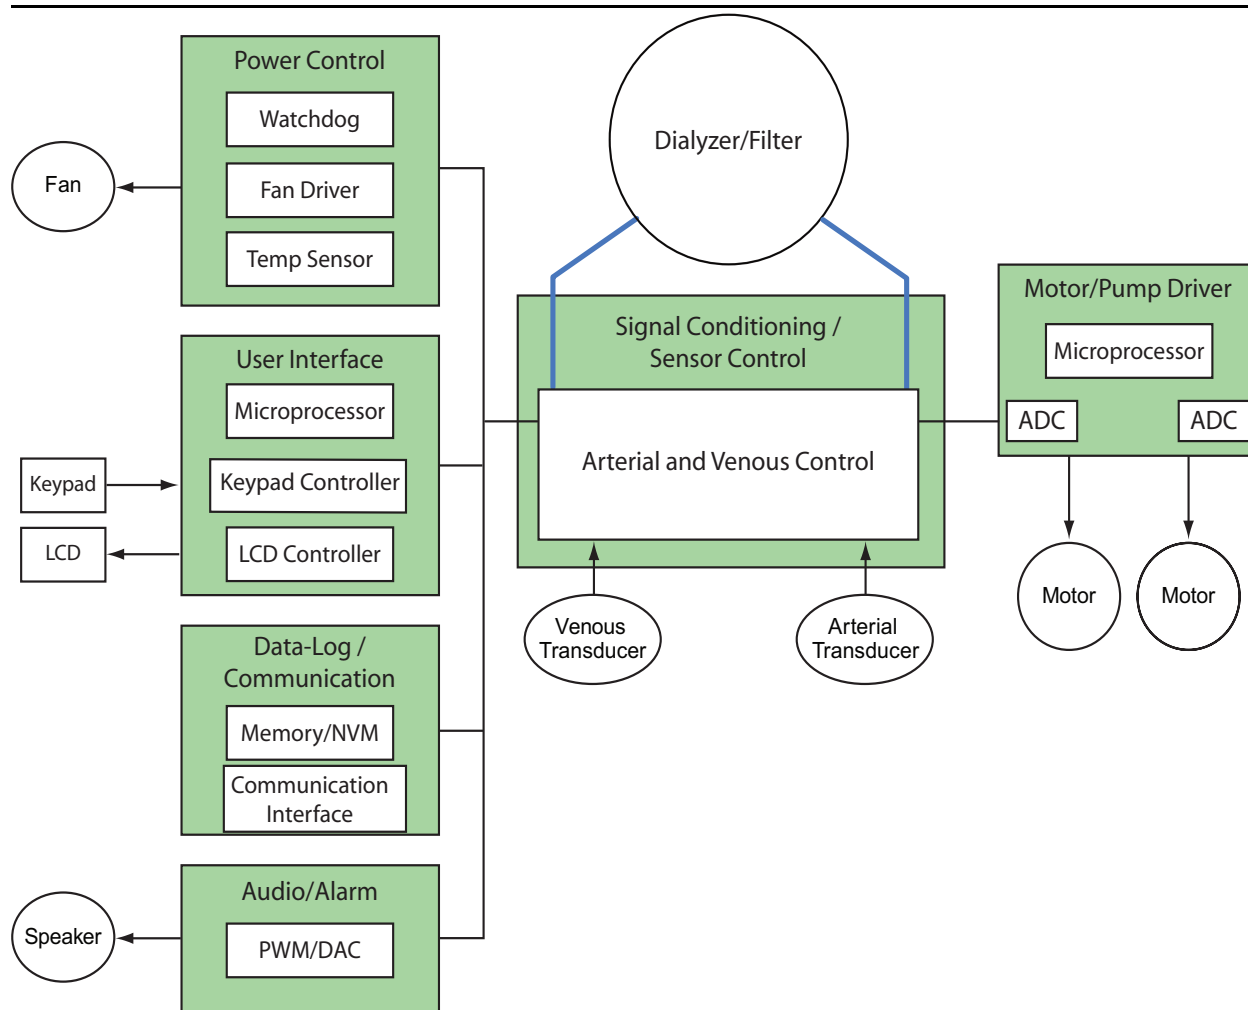

Figure 1 • Hemodialysis Block Diagram
- A typical dialysis machine (Figure 1 on page 2) leverages several microcontrollers to monitor and control the flow of blood and other fluids, sound alarms, and shut down the machine when necessary.
Figure 1 is a block diagram for a typical hemodialysis machine.
A SmartFusion device can integrate the functions of a hemodialysis engine, typically handled by several discrete components, into a single, reliable, low power programmable device. The functional blocks (shown in green in Figure 1 on page 2) are examples of such integration.